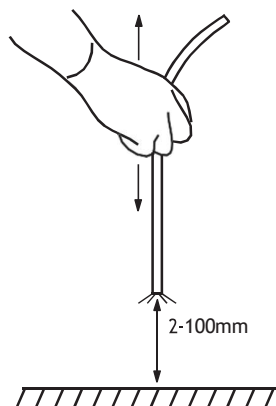

Figure 3-6 Brightness Observation
5. Move the distal end of the endoscope up and down and keep the distance between the distal end and the object within a range of 2 - 100 mm. Ensure that the brightness of the image displayed on the screen does not change obviously, as shown in Figure 3-6.